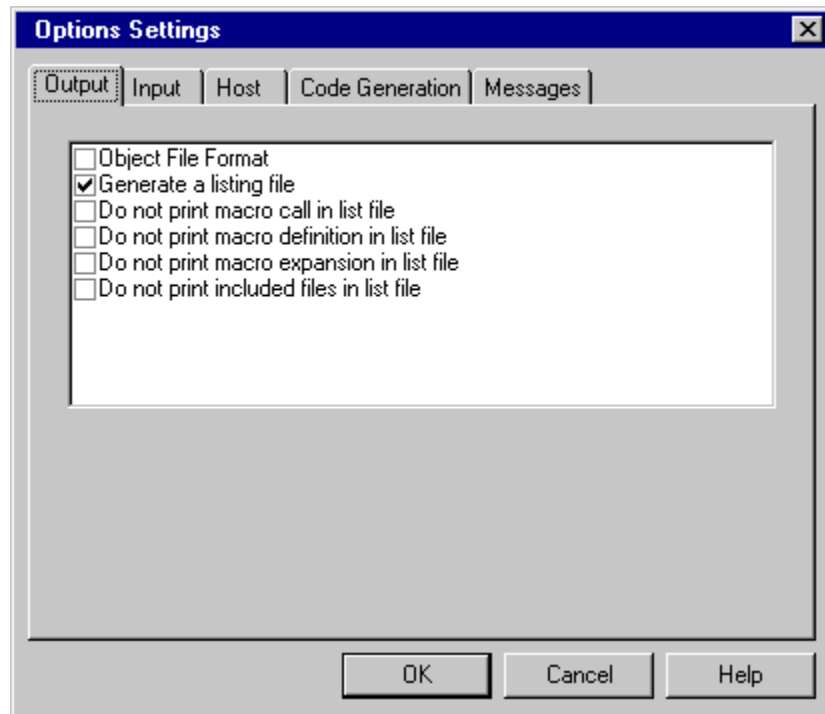

Figure 1-6. Options Settings Dialog Box
2. Select the menu entry **Assembler | Options** to generate an *ELF/DWARF 2.0* object file. The **Options Settings** dialog is displayed as shown in **Figure 1-6**.